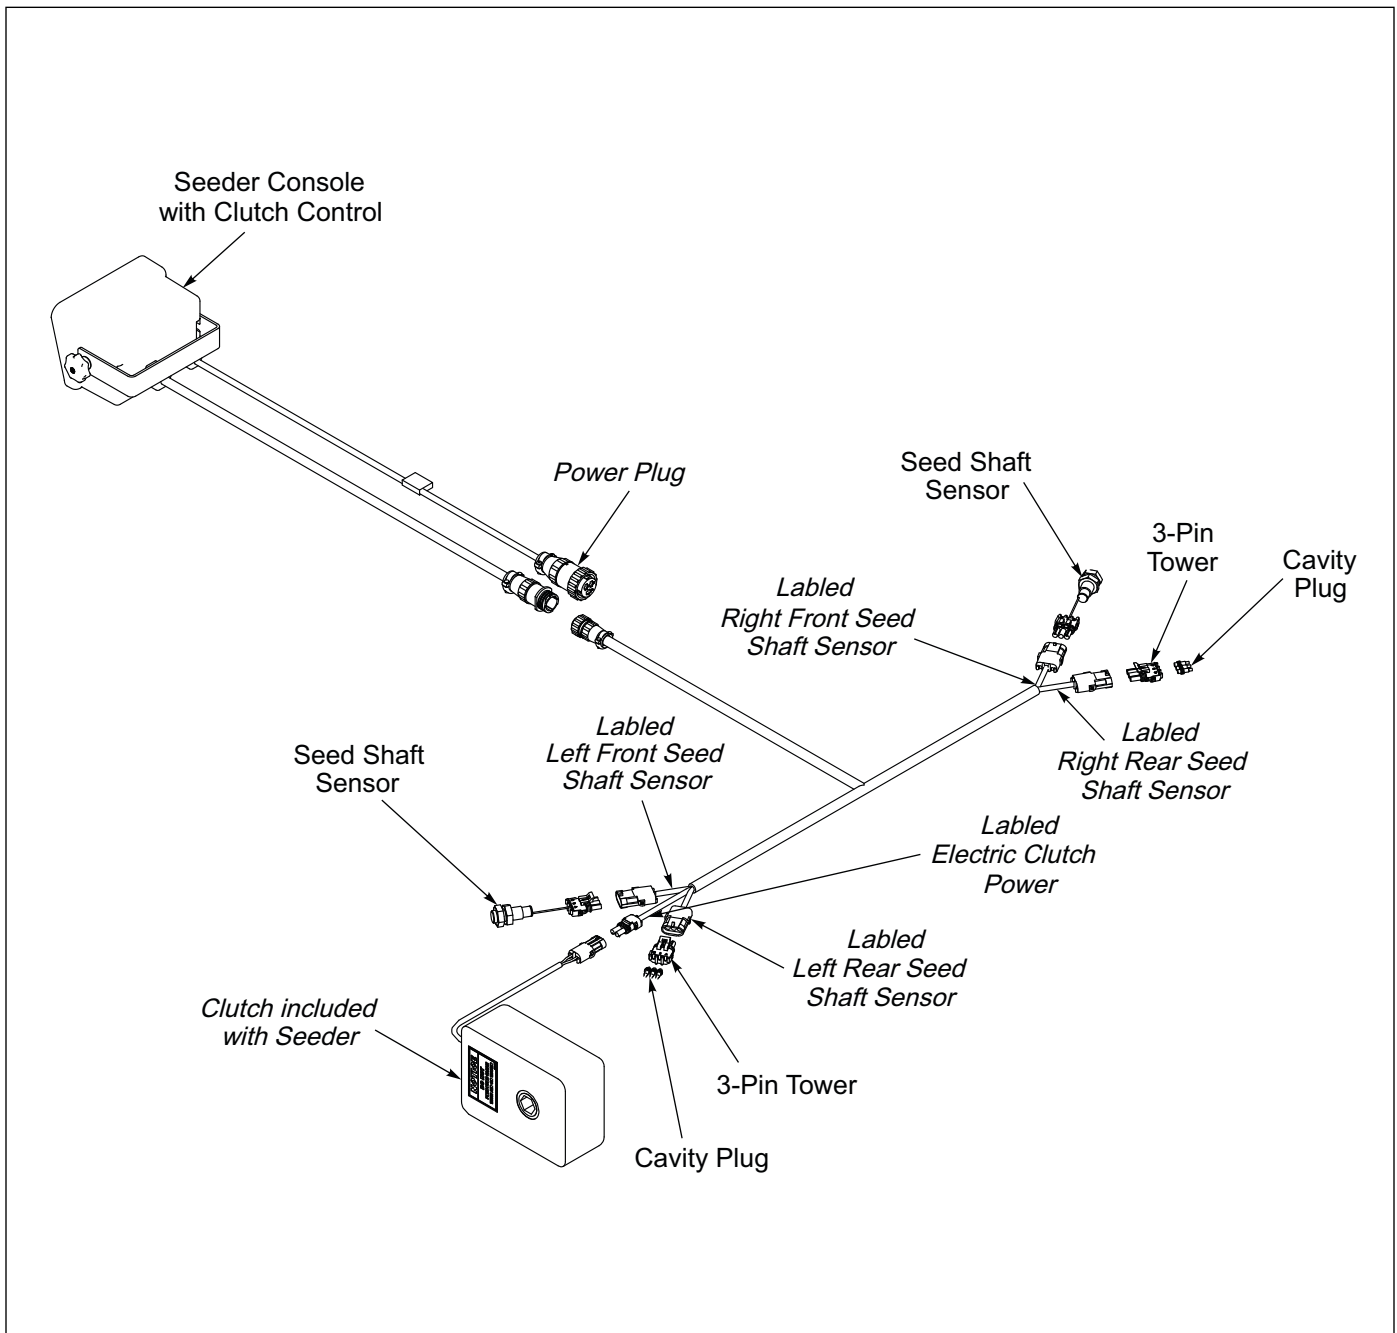

Figure 2-28: Seed Shaft Sensor Schematic
5. On left side connect plug labeled "Electric Clutch Power" to the Electric Clutch lead. **See Figure 2-28.**